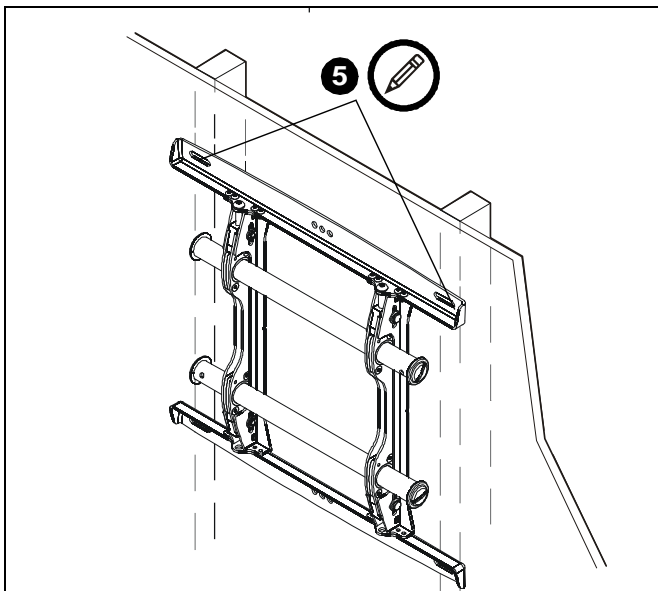

Figure 6
- Measure up 7-1/2" (190.5mm) from the center point to mark location of the upper mounting slots. (See Figure 6)
- Using a level, mark the wall on each stud to attach the mount through the upper mounting slots. (See Figure 6)